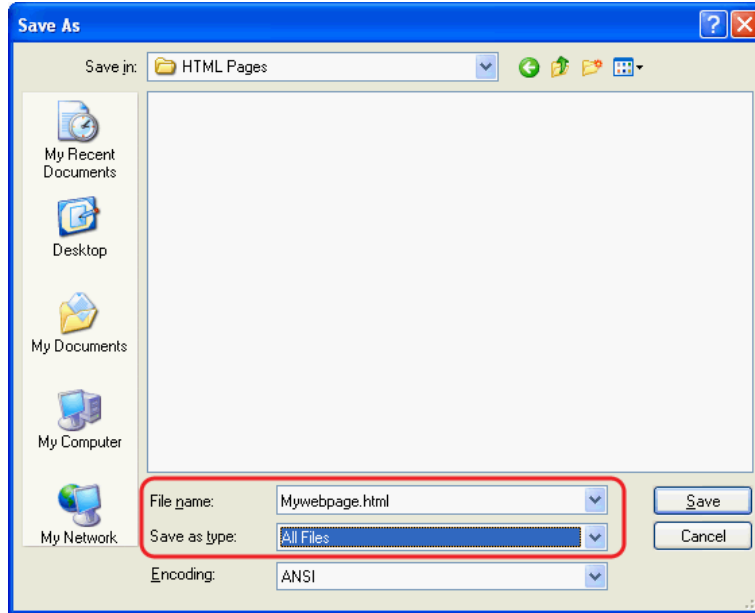

Figure 78. Saving the Notepad Document
6. Navigate to the desired save location (see figure 78).
- a. In the **File name** field, enter the desired name for the Notepad document. Make sure the name of the file contains a .html extension (see figure 78 for an example). **The name of the file must not contain a .txt extension.**